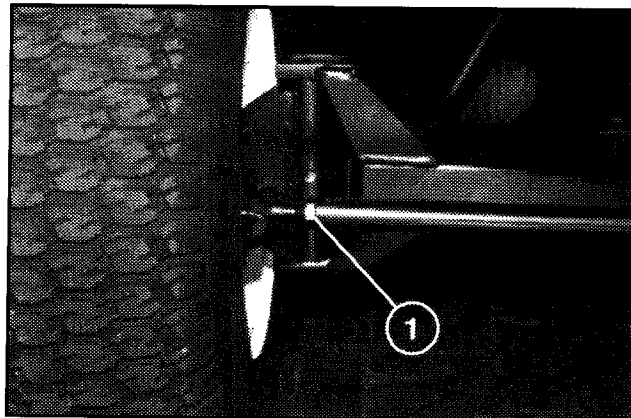

Figure 41
2. To adjust, loosen jam nuts at both ends of the tie rod. (Fig. 41)